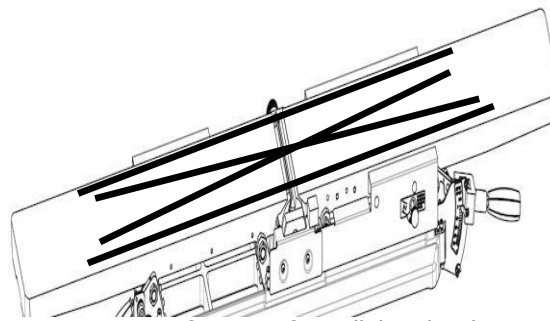

Figure 47: Verification of parallelism/coplanar
STEP 5: After verifying the parallelism on the outfeed table, make sure the eccentric bushing(s) are seated snugly and tighten set screw(s) into eccentric bushing(s) **FIG. 47**.
STEP 6: Remove infeed table "depth stop release knob" and infeed table cover, loosen set screws and place straight edge across infeed tables as in Fig. 47, and adjust eccentric bushings under infeed table (as in Step 4) for outfeed table.
STEP 7: Verify parallelism in each position as in Fig. 47 confirm eccentric bushings are snug and tighten cap screws and then set screws in eccentric bushings on infeed table.